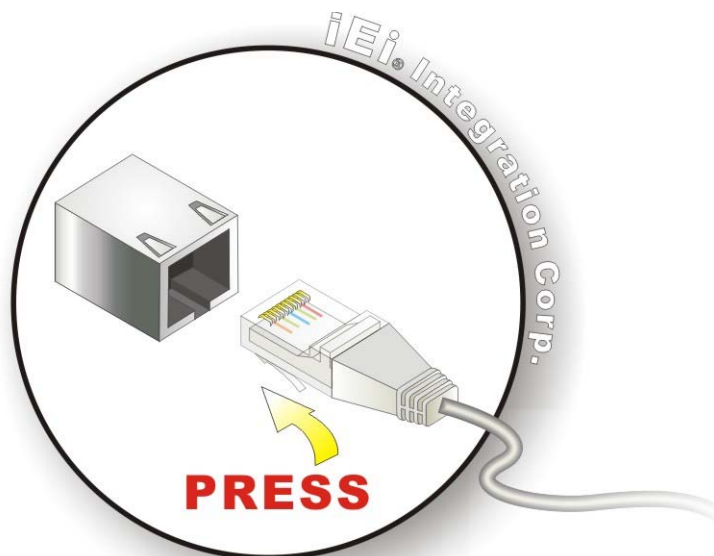

Figure 3-15: LAN Connection
Step 1: Align the connectors. Align the RJ-45 connector on the LAN cable with the RJ-45 connector on the IOVU-07F-AD. See **Figure 3-15**.